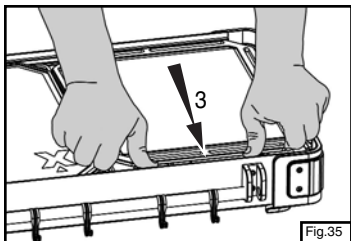

Fig. 35
- Next, hold the corners of the griddle as shown in Figure 35. While using your thumbs to push against the inside of the stove, in the direction of Arrow # 3, insert the griddle into the storage channel.